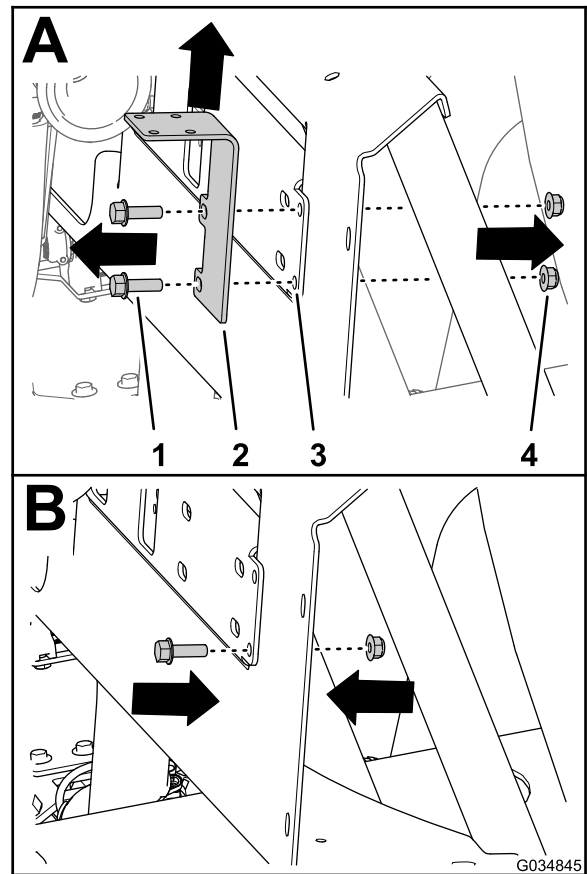

Figure 45
- Remove the 2 flange head bolts (5/16 x 1 inch) and 2 flange locknuts (5/16 inch) that secure the support bracket for the bypass-shutoff valve to the manifold mount (A of Figure 45), and remove the shutoff-valve bracket.
- Assemble a flange head bolt (5/16 x 1 inch) and flange locknut (5/16 inch) to the manifold mount (B of Figure 45) at the lower hole position for the shutoff valve bracket.
3. Secure the pressure transducer and manifold to the slot in the manifold mount with a R-clamp and the previously removed (Figure 45) flange head bolt (1/4 x 3/4 inch) and flange locknut (1/4 inch).